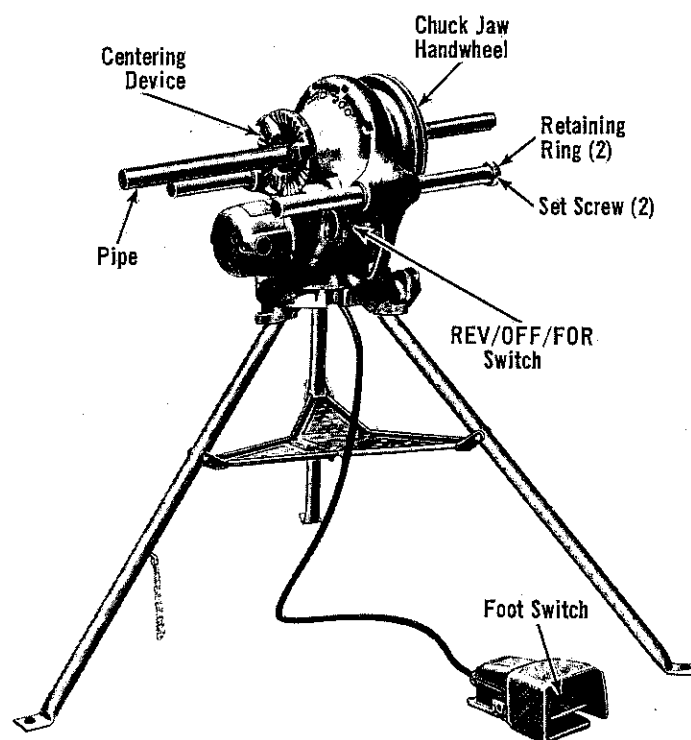

Figure 3. Power Drive with Pipe Installed and Stand.
Installing Pipe in Power Drive (Fig. 3)
- With Power Cord plugged in, turn REV/OFF/FOR Switch to FOR (forward) position (Fig. 3).
- Place foot on Foot Switch (Fig. 3) to operate Power Drive.
- Turn REV/OFF/FOR Switch to FOR (forward) position (Fig. 3).
- Turn REV/OFF/FOR Switch to REV (reverse) position (Fig. 3) and back off Threader by stepping on Foot Switch.
1. Turn REV/OFF/FOR Switch to FOR (forward) position (Fig. 3).